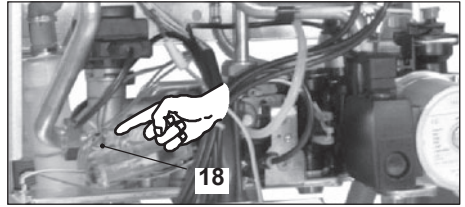

Fig. 8.6
- Disconnect the C.h. temperature probe NTC 18 in Fig. 8.6
- Connect the C.h. temperature probe NTC 18 in Fig. 8.6.